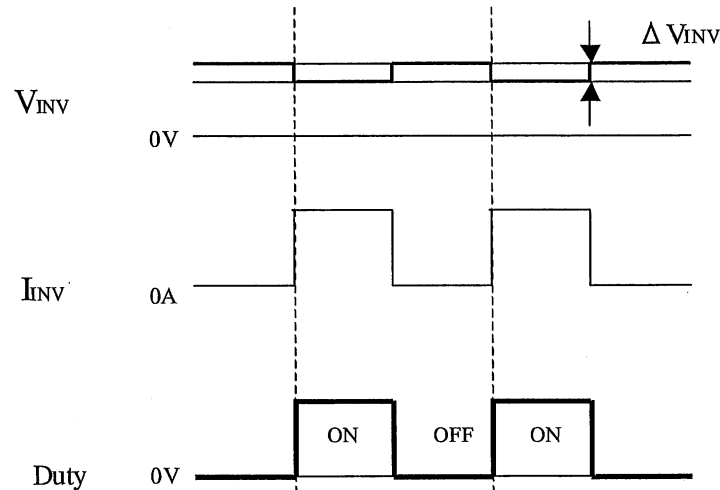

Fig.4 Brightness control voltage.
- b) Brightness control voltage is switched for "ON" and "OFF", as shown in Fig.4. Voltage difference generated by this switching, ΔV_{INV} , may affect a sound output, etc. when the power supply is shared between the inverter and its surrounding circuit. So, separate the power supply of the inverter circuit with the one of its surrounding circuit.